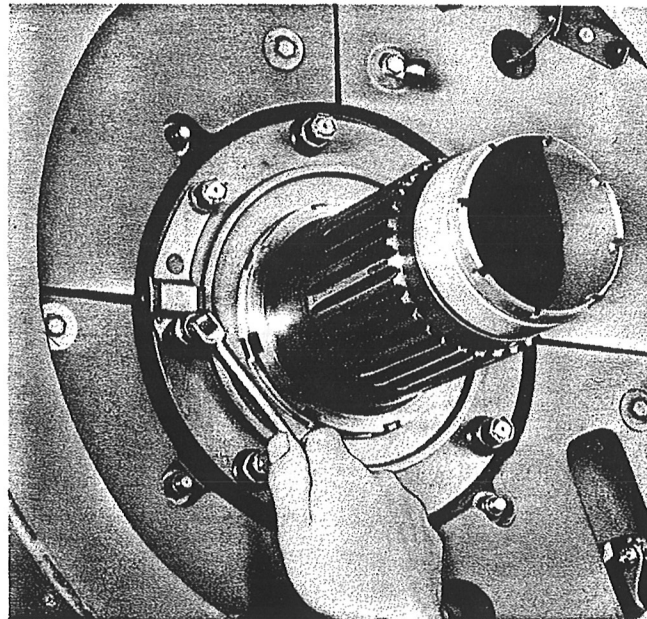

Figure 18—Installing Adapter Stop Assembly
(1) Remove the nuts and spacers from the thrust plate.
(2) Install the adapter stop assembly. (See figure 18.)
(3) Install the spacers supplied with the adapter stop.
(4) Install and safety the nuts.